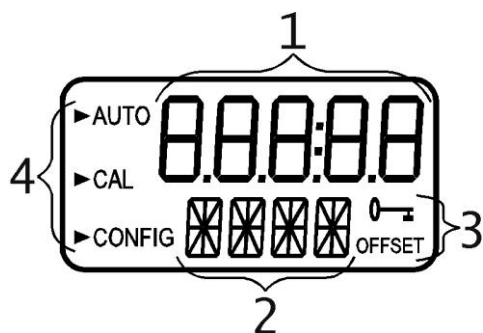

Figure 1 – Display used in the instrument
Figure 1 illustrates all the items that can appear on the display. The upper row of the display (1) is used for reporting the turbidity levels and to provide user guidance in the customer setting routine. The lower row of the display (2) is used to communicate error messages and provide user guidance. The display has two icons (3) that are used to indicate the use of access code and offset mode. In addition, mode arrows (4) are used to indicate the current instrument operating mode; AUTO (normal operation), CAL (calibration) and CONFIG (configuration).